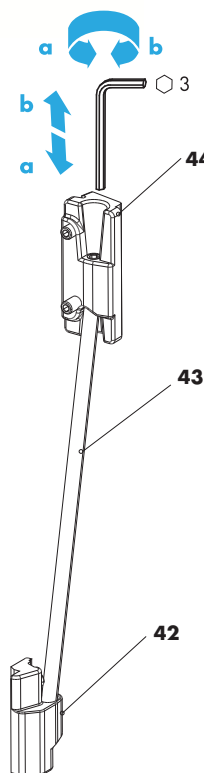

Fig. 4
3. Insert the BSU A0040 rod (43) into the BSU A0040 right/left frame part. (42) (fig. 4).
4. Insert the BSU A0040 rod (43) into the BSU A0040 right/left sash part (44) (fig. 4).
6. Adjust the grub screw in the BSU A0040 right/left sash part (44) to reduce the play of the BSU rod (43) (fig. 4).